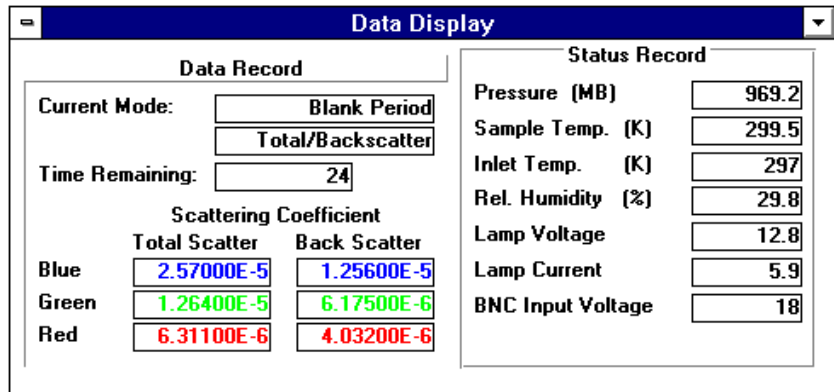

Figure 5-5
1. Double-click on the **Data Display** icon to display current data (Figure 5-5).
4. Look at the Data Display, refer to Figure 5-5. It should show the Time Remaining counting down toward 0 (zero). The current mode should first be changed to Blank Period, then to the Zero Measurement, and eventually to Normal Measurement when the time remaining reaches 0. This indicates that zero measurement has been taken and stored to the log data file.
Clean air is now entering the Nephelometer and the Scattering Coefficient numbers, refer to Figure 5-5, should read in the E-7 or E-8 range. This is the normal background noise level of the Nephelometer. The numbers should fluctuate about zero (from negative to positive).